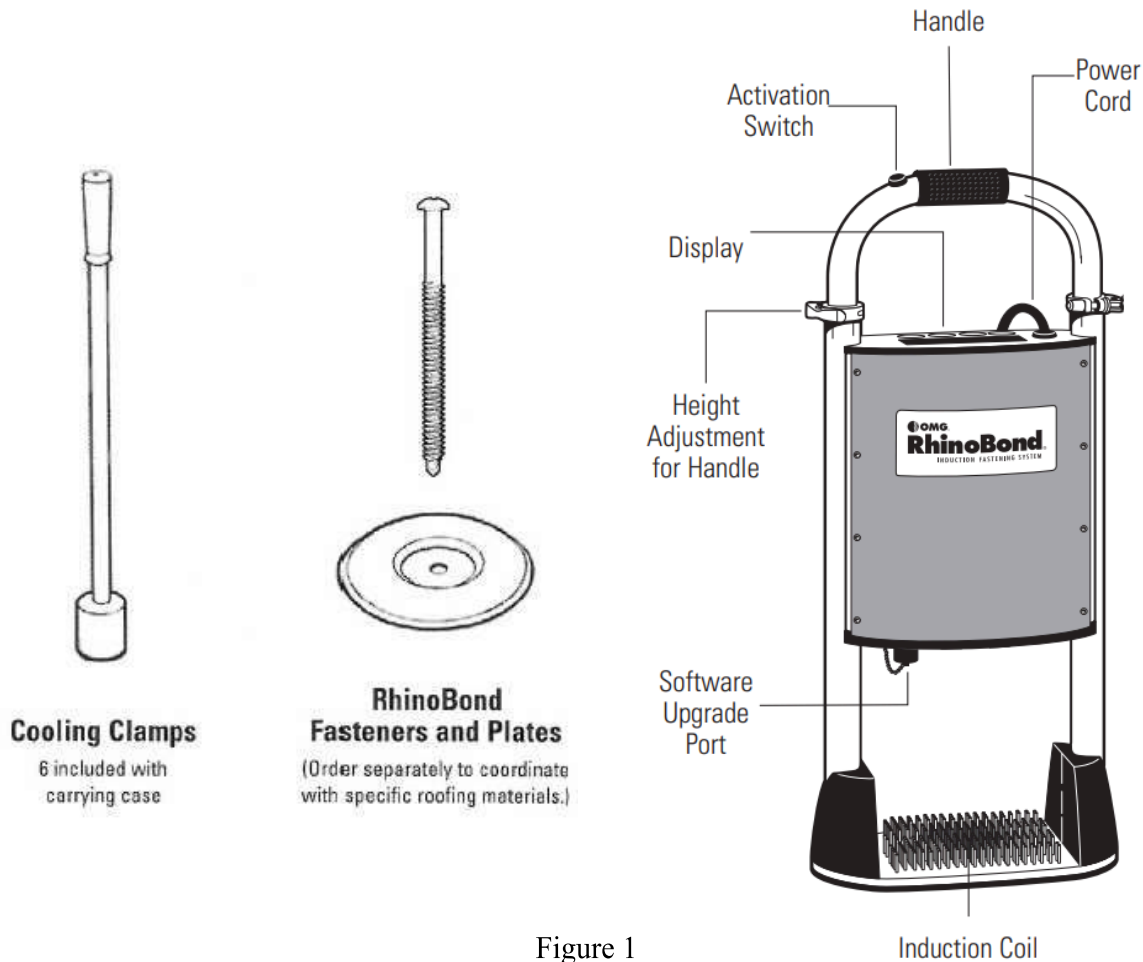

Figure 1
1. RhinoBond System Components (See Figure 1)